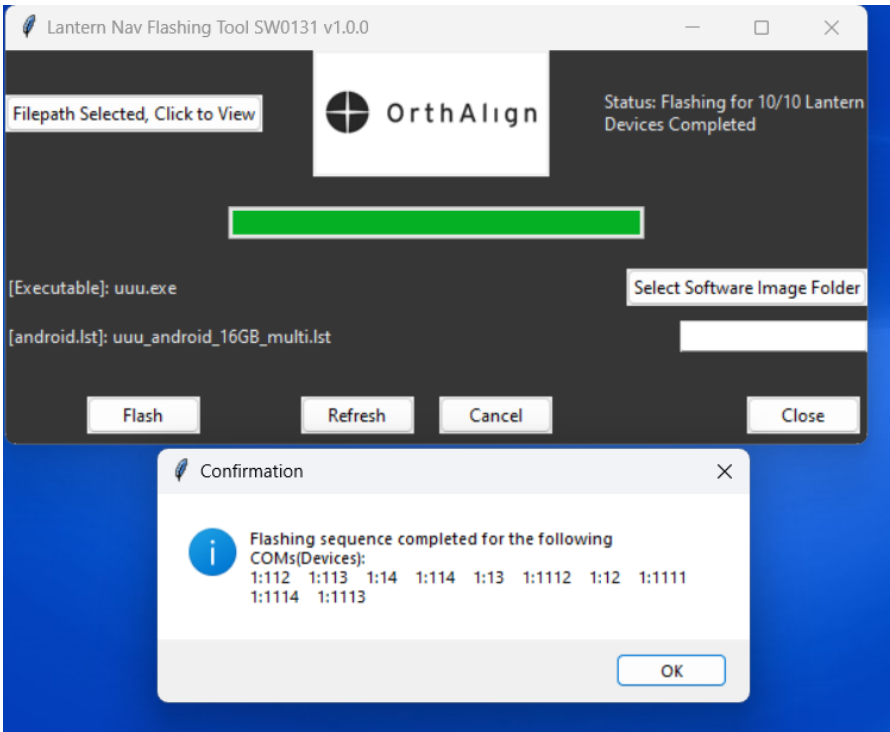

Figure 13: Programming Complete Confirmation
8.2.8 Select the "Flash" button on the Lantern SOM Flasher Application. The board(s) should begin programming, and the progress indicator will move to the right. Programming is complete when the progress bar is full, and the application shows a pop up that says "Flashing sequence completed for the following COMs (Devices):" Refer to Figure 13.